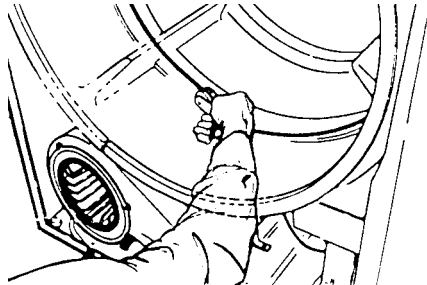

Fig. 41
2. Reach underneath drum and behind motor to locate idler pulley. Push idler pulley to left to release drum belt tension. Remove the belt from the motor pulley. (Fig. 41)